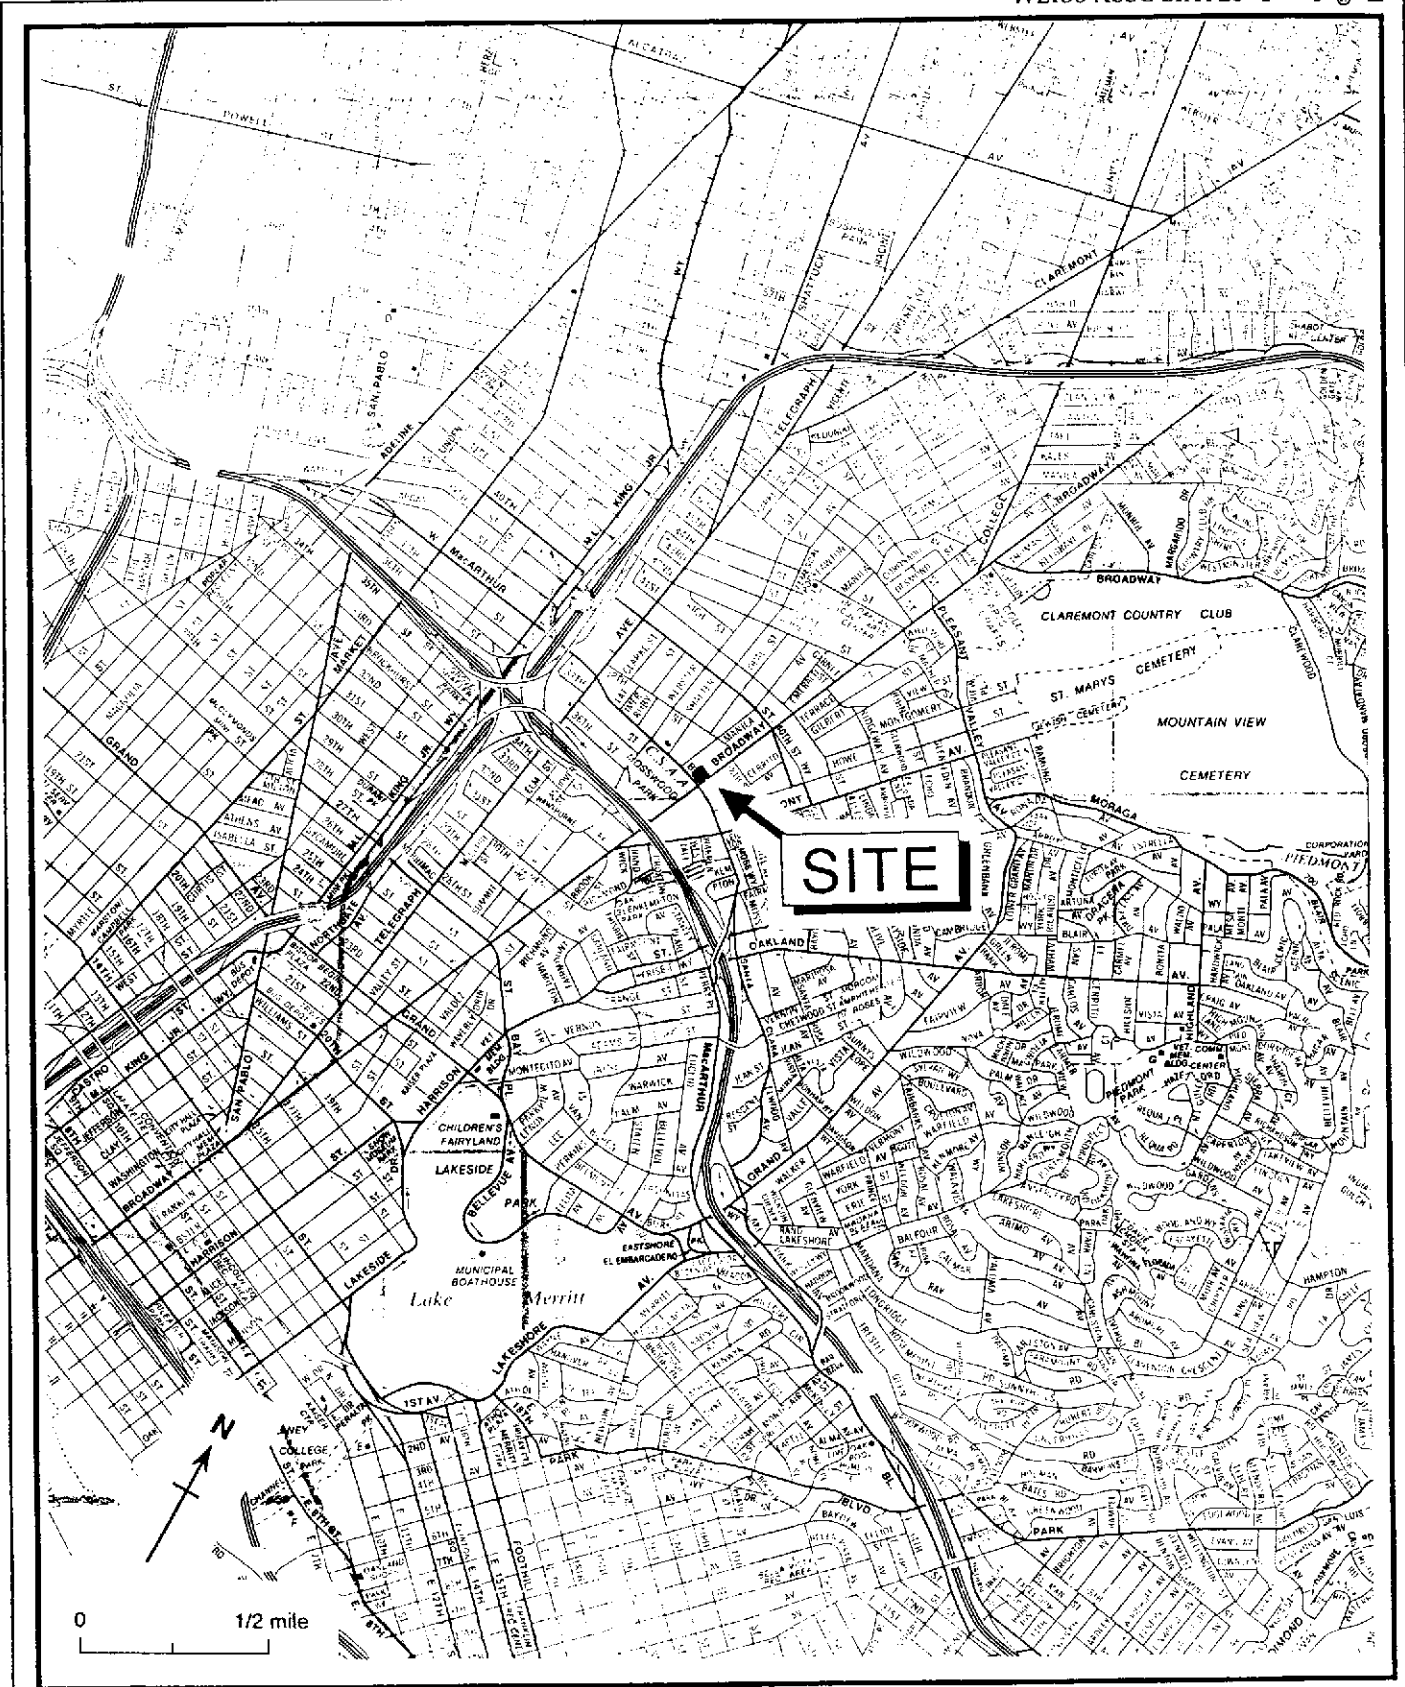
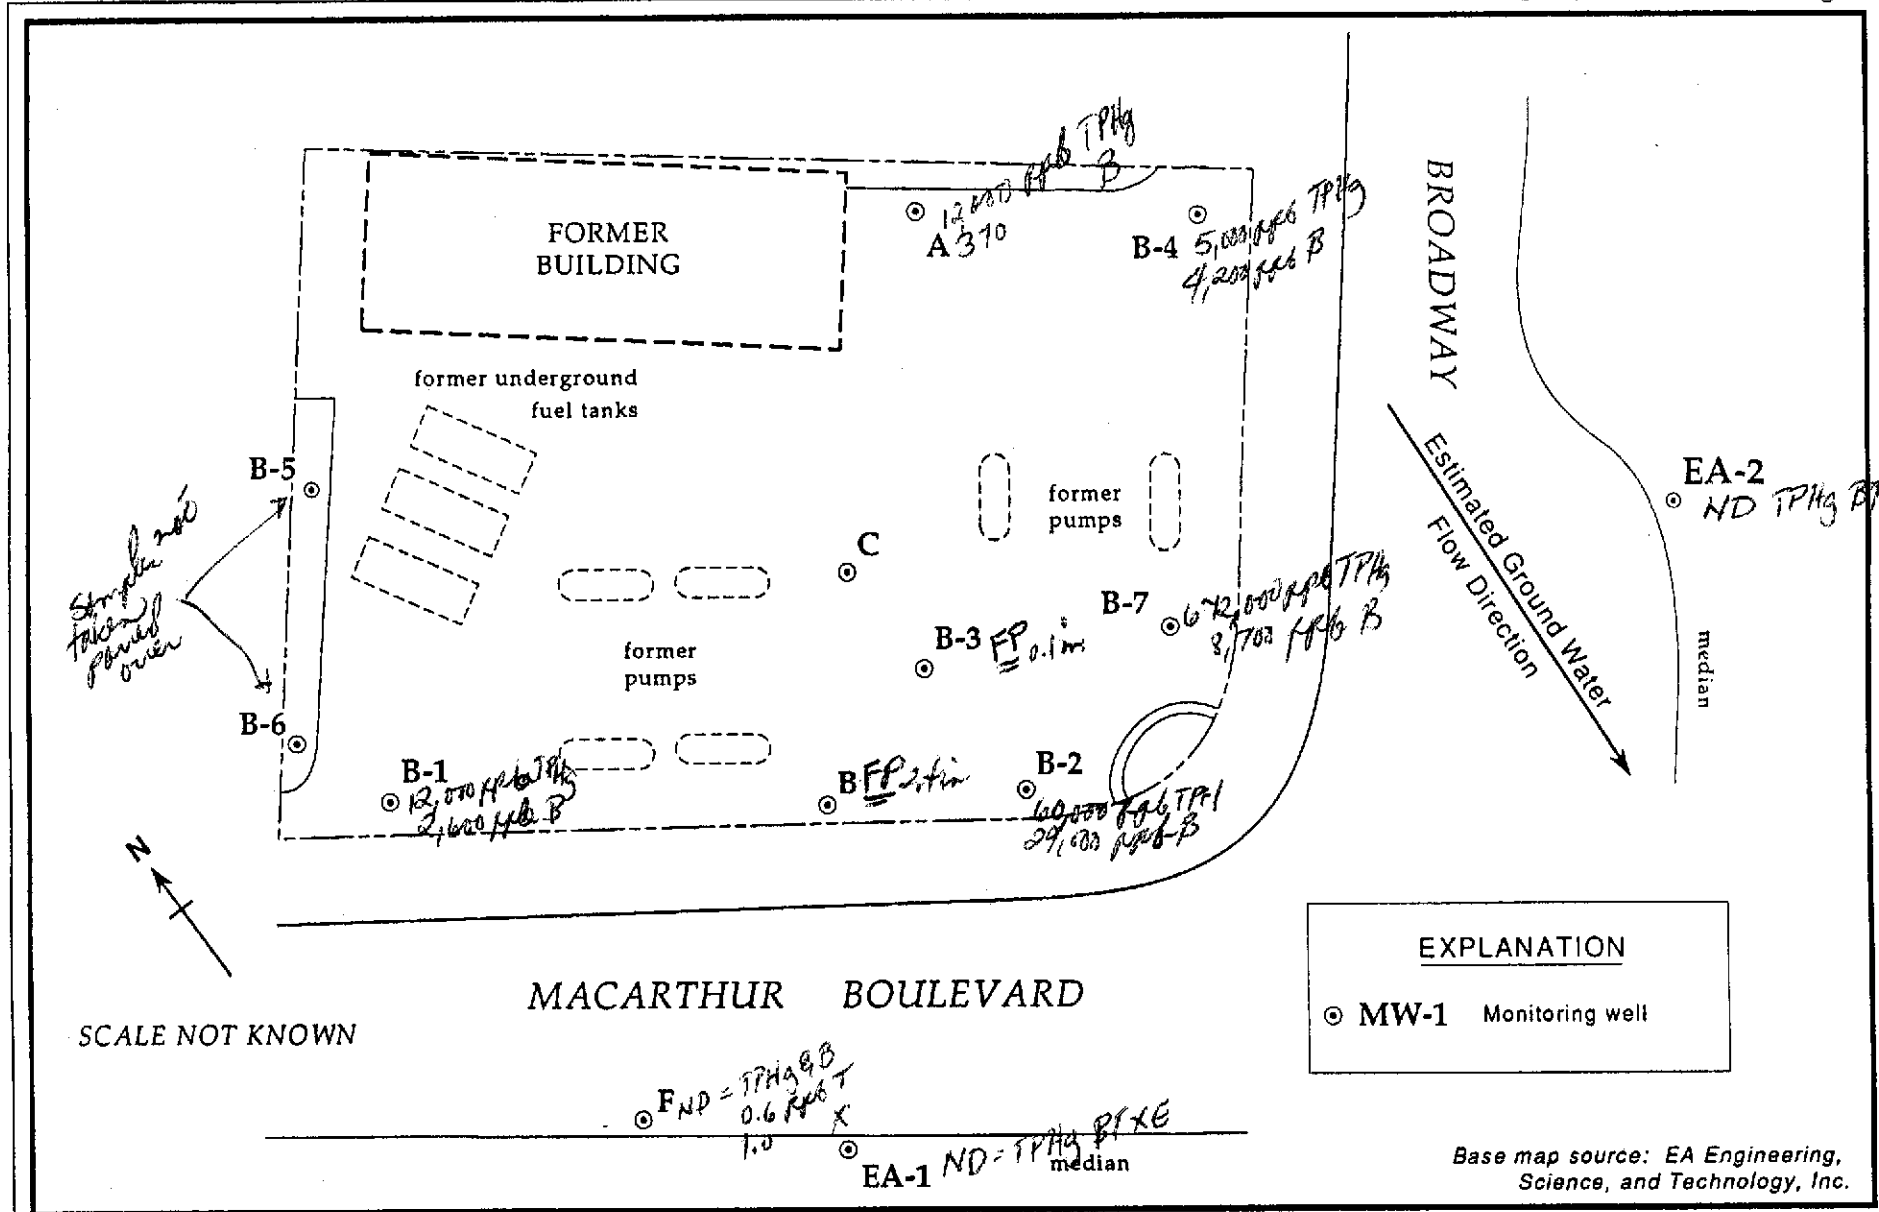

Figure 1. Site Location Map - Former Chevron Service Station #91026, Oakland, California
Figure 2. Monitoring Well Locations - Former Chevron Service Station #91026, Oakland, California
Weiss Associates (WA) collected ground water samples from nine monitoring wells on August 9 and 10, 1989 as part of the quarterly ground water monitoring program at Chevron Service Station #91026 in Oakland, California (Figure 1). Ground water samples from monitoring wells A, B-1, B-2, B-4, B-6, and B-7 (Figure 2) contained benzene above the California Department of Health Services (DHS) maximum contaminant level (MCL) for drinking water. Ground water samples from monitoring wells B-1, B-2, B-4, B-6 and B-7 contained toluene above the DHS recommended action level. Ground water samples from wells B-2 and B-7 contained ethylbenzene and xylenes above DHS MCLs.